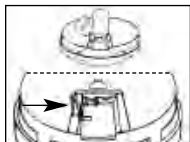

FIGURE 9
**CAUTION! IF THE BATTERY REMINDER FINGER(S) ARE NOT HELD DOWN IN THE BATTERY COMPARTMENT BY THE BATTERY, THE BATTERY DOOR WILL NOT CLOSE, THE AC QUICK CONNECTOR WILL NOT ATTACH TO THE ALARM, AND THE ALARM WILL NOT ATTACH TO THE TRIM RING (SEE SECTION 6, FIGURE 9).**
When installing the battery, press the battery reminder finger down into the battery compartment and install the battery (see figure 9).